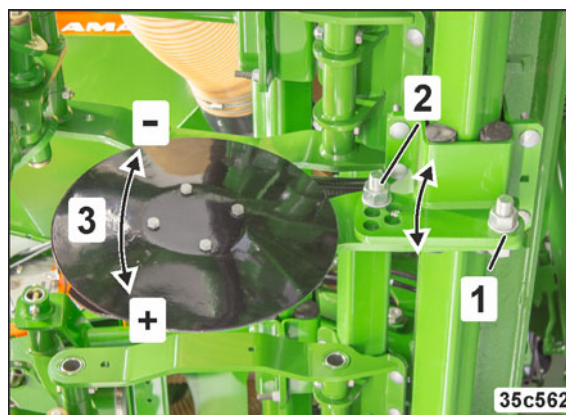

Fig. 202
1. Loosen the fastening nut (Fig. 202/1).
2. Loosen the adjustment screw (Fig. 202/2) and remove.
3. Swivel the fertiliser coulter to the desired position (Fig. 202/3).
4. Insert the adjustment screw (Fig. 202/2) and tighten.
5. Tighten the fastening nut (Fig. 202/1).